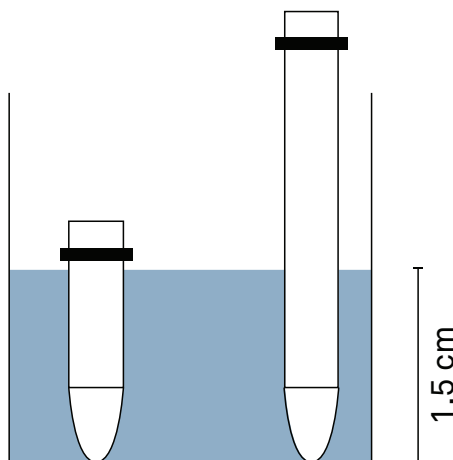

Figure 14 Saturate ceramic tips
1. Place the ceramic tips of the tensiometer shafts in deionized water overnight (Figure 14).